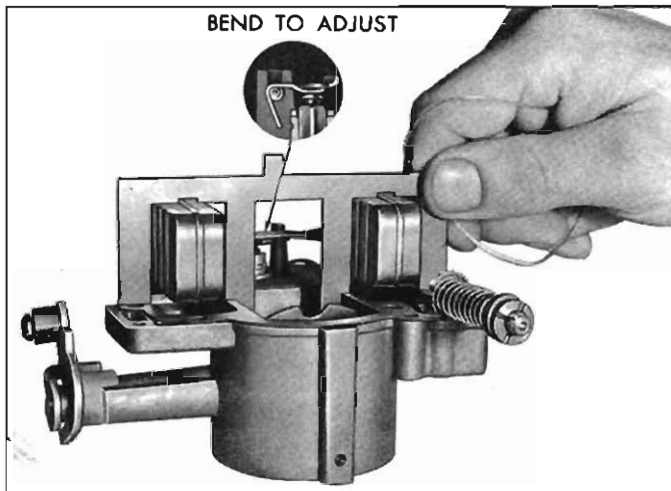
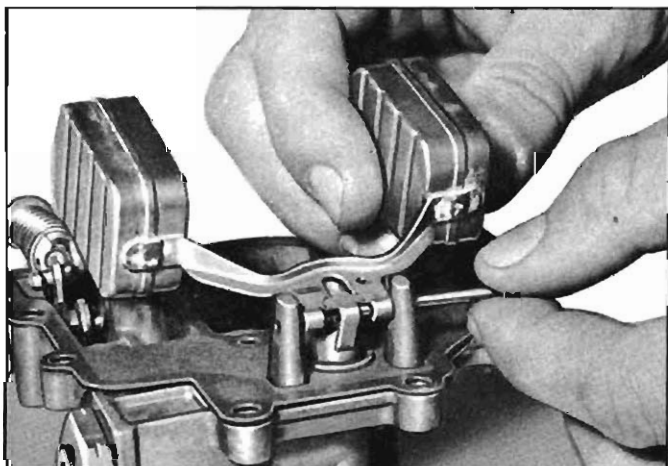

Fig. 9-10—Checking Float Level
Fig. 9-20—Replacing Floats
2. Invert the cover on a flat surface. Place float level tool in chain gauge set J-9577 over float as shown in Figure 9-10.
8. Install a new gasket and replace float and pin (fig. 9-20). Check float level and float drop with Tool J-9577 (figures 9-10 and 9-11).